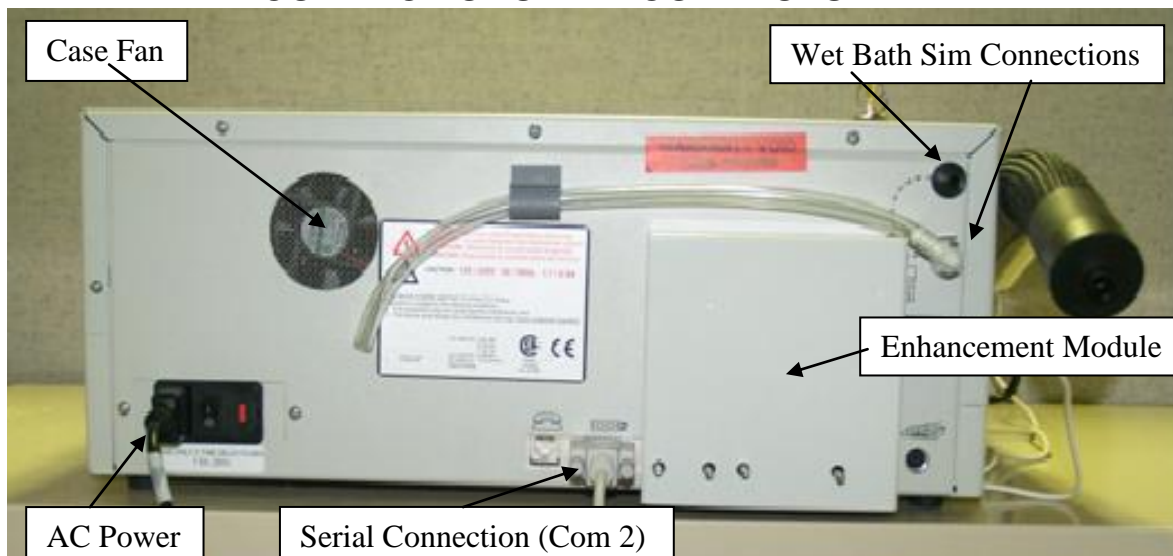

Figure B4 – rear view of the Intox EC/IR II
5) **Enhancement Module** – hub that allows the following external components to be connected to the instrument: [see Fig B4]